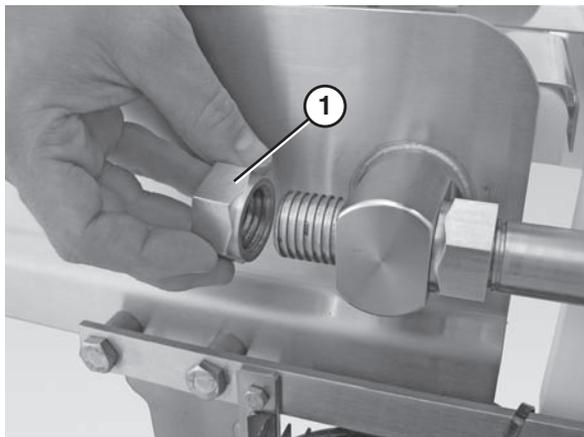

Figure 80
1. Remove the back nuts (**Figure 80, item 1**) on both discharge nose bar shafts.